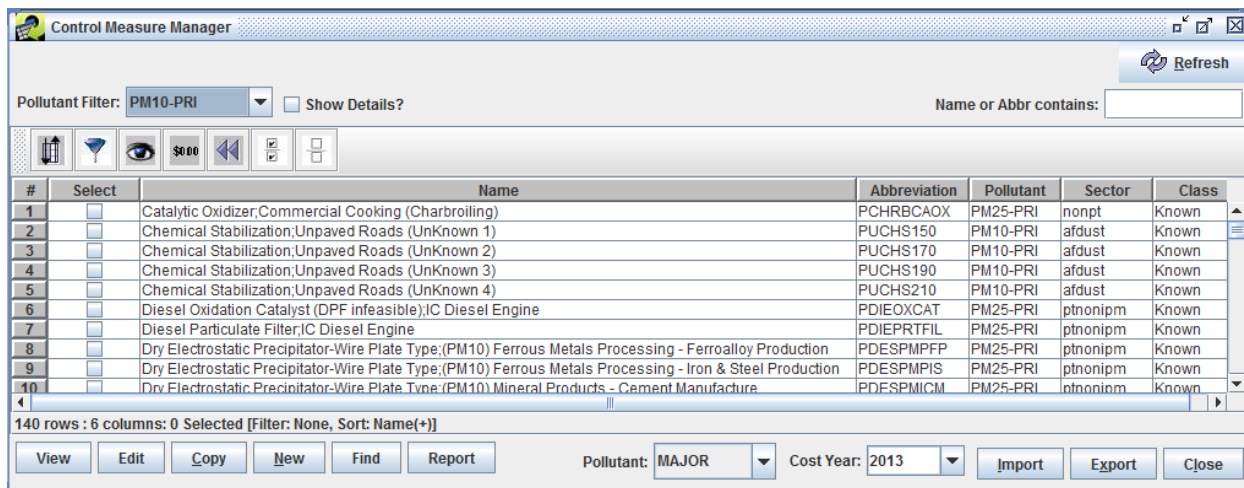

Figure 3.3: Control Measure Manager with Control Measures
Step 1-2: Display Control Measures. To display control measures from the CMDB in the Control Measure Manager window, select a pollutant from the **Pollutant Filter** pull-down menu at the upper left corner of the Control Measure Manager. For this example, use the scroll bar to find and select PM10-PRI. Information about any control measures that control the selected pollutant will appear in the Control Measure Manager window (Figure 3-3). The control measure **Name**, **Abbreviation**, **Pollutant**, **Sector**, and **Class** are shown in the window. Note that name of each control measure must be unique within the database, and that the control measures appear in a table in which the data can be sorted by clicking on the row headers.